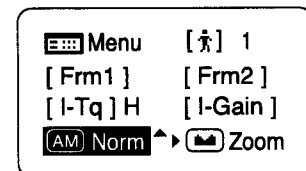

Fig. 4-5
2. After selecting [AM] using the control key, push the Set key. [AM] and the default or last setting now blink on the display. (Fig. 4-5)